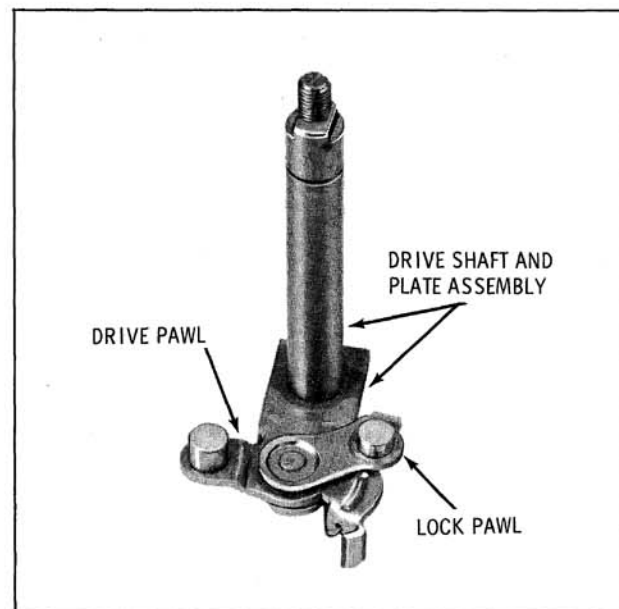

Fig. 13-192 Lock Pawl
2. Assemble lock pawl over drive pawl as shown in Fig. 13-192.